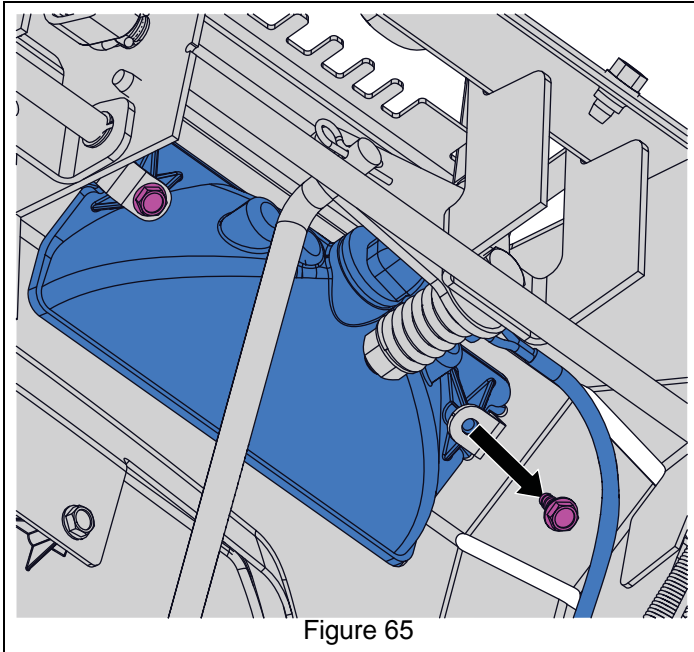

Figure 65
3. Remove hardware securing headlight to dash panel. See Figure 65.